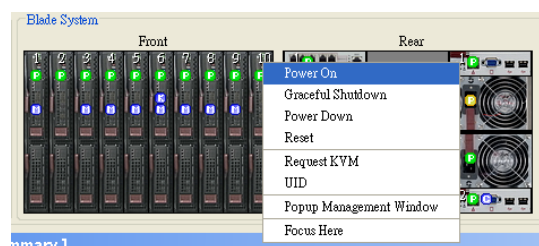

Figure 2-8. Blade Popup Menu
5. **Popup Menu Supported:** A user can right click on a blade module to enable a popup window to perform certain actions. As shown in Figure 2-8, right clicking on a blade displays a window with power, UID and KVM functions.